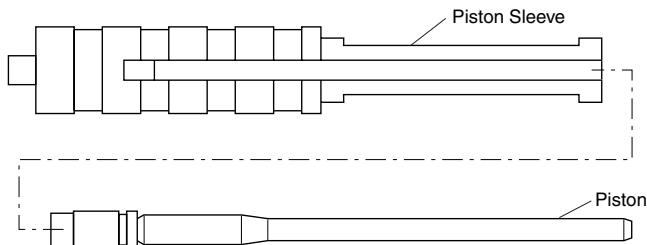

Figure 12 - Inserting Piston Into Piston Sleeve
2. Insert piston into piston sleeve. Push piston to end of piston sleeve (see Figure 12).